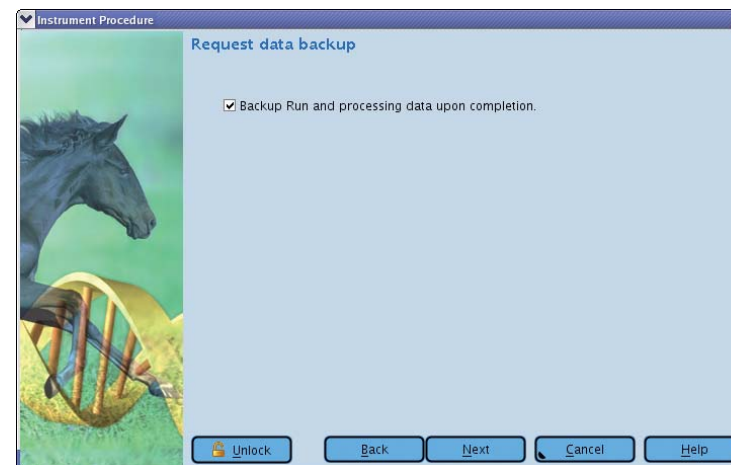

Figure 26: The Run Wizard's eighth window: Request data backup
- ▶ This opens the Run Wizard's eighth window: Request data backup (Figure 26).